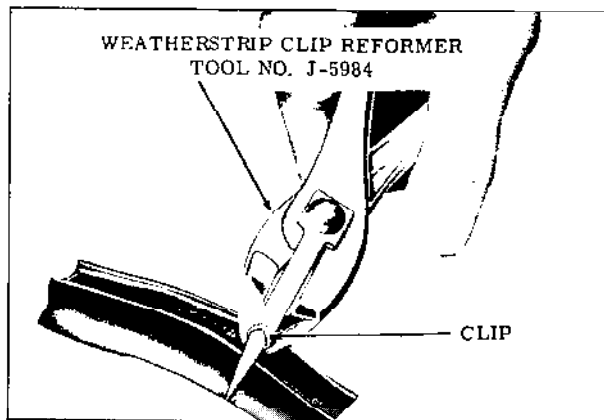

Fig. 15-9 Reforming Weatherstrip Clips with Tool J-5984
2. Check weatherstrip clips for proper contour and reform if necessary using Tool J-5984. (Fig. 15-9)
2. Check weatherstrip attaching clips for proper contour and, if necessary, reform using Tool J-5984. (Fig. 15-9)